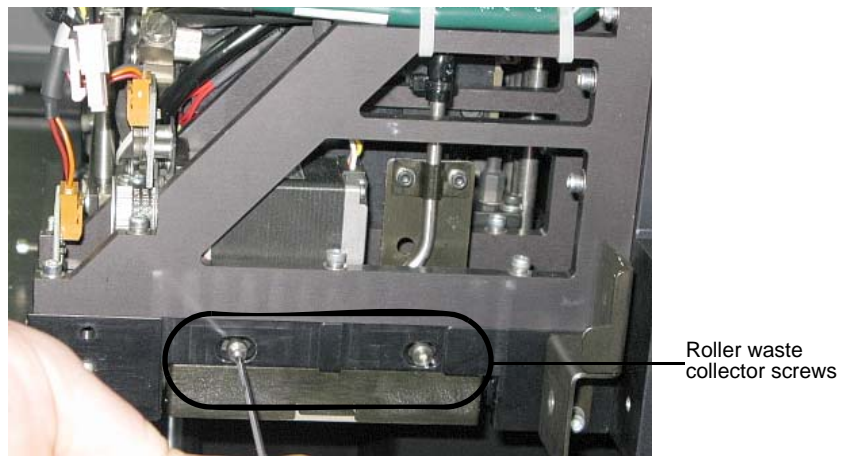

Figure 6-32: Removing the roller waste collector covering
1. Return the roller waste collector to the print block and screw on the covering (see figure 6-32 on page 29).